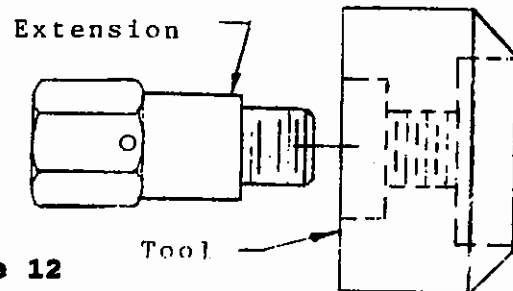

Figure 12
A) Thread the tool on the extension as far as possible with the end of the selected operation toward the vise. (See Fig. 12)